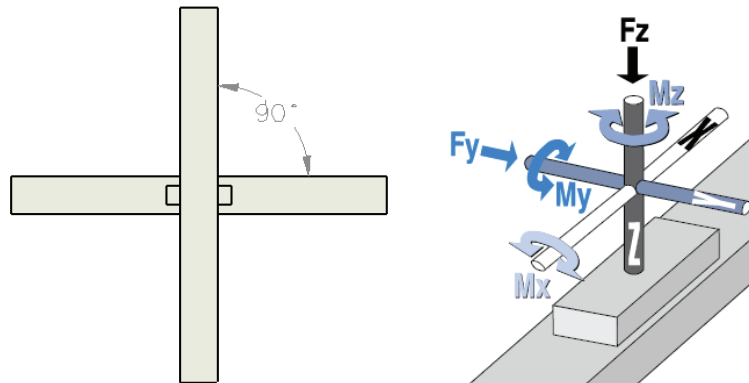

Figure 10: (Left) "Y" and "Z" actuators mounted correctly perpendicular to each other (Right) Key showing external forces on actuator
1. **In an X-Y-Z system, is the Z-axis mounted perpendicular to the Y-axis?** Misalignment in this plane will apply an unfavorable bending moment on the Y-axis actuator's bearing system in any or all possible axes. (See figure 10.)